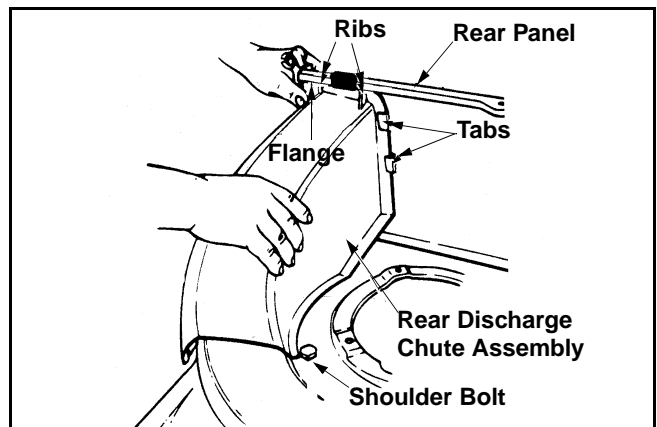

Figure 6
- Slide the ribs on the discharge chute assembly under the flange on rear panel as you insert the side of the discharge chute under the two tabs. See Figure 6.